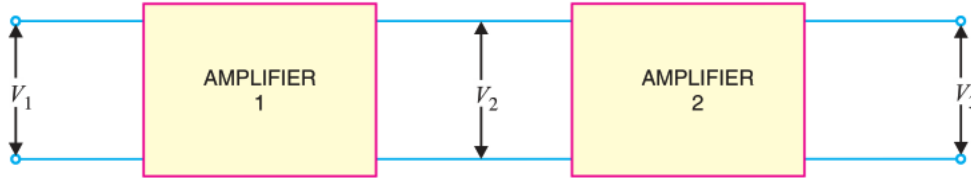

Fig. 3.5
- (ii) When the gains are expressed in *db*, the overall gain of a multistage amplifier is the sum of gains of individual stages in *db*. Thus referring to Fig. 3.5;